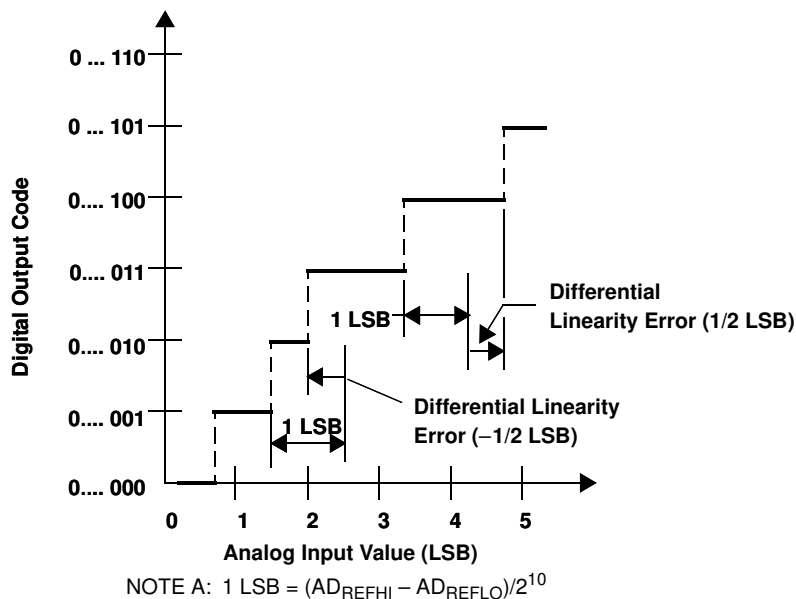

Figure 22. Differential Nonlinearity (DNL)
The differential nonlinearity error shown in Figure 22 (sometimes referred to as differential linearity) is the difference between an actual step width and the ideal value of 1 LSB.
- Figure 22. Differential Nonlinearity \(DNL\)